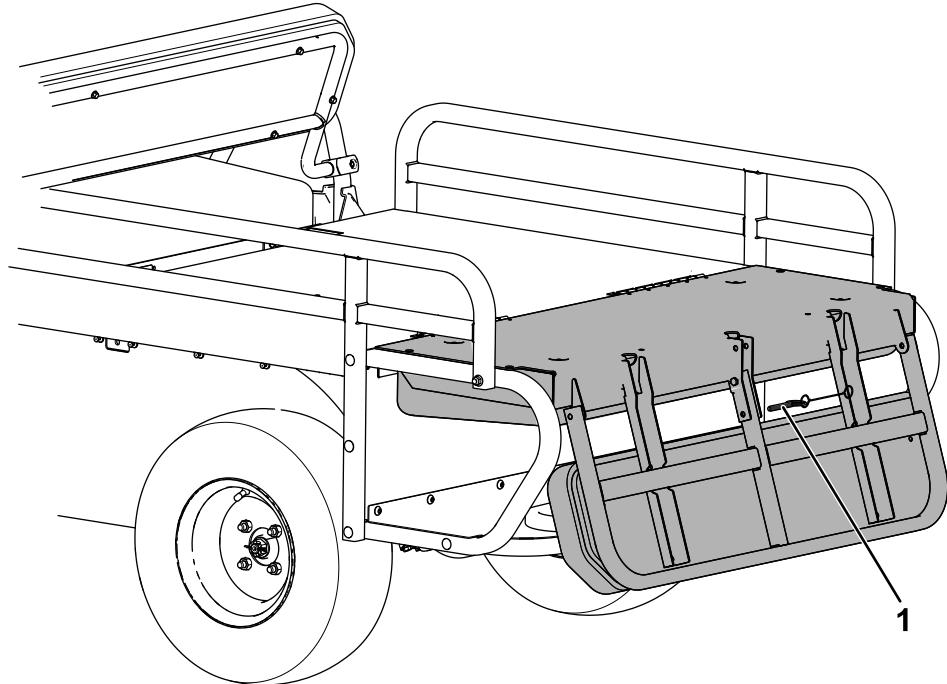

Figure 13
3. Rotate the seat forward and remove the quick pin (Figure 13).